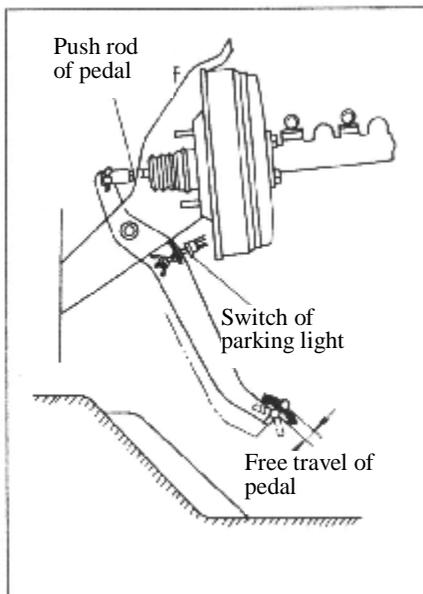

Figure 10-8-6 Check Brake Pedal Free Travel
② Brake pedal free travel. Step down the brake pedal until some resistance is felt. The free travel should be 5~10mm. As shown in figure 10-8-6.